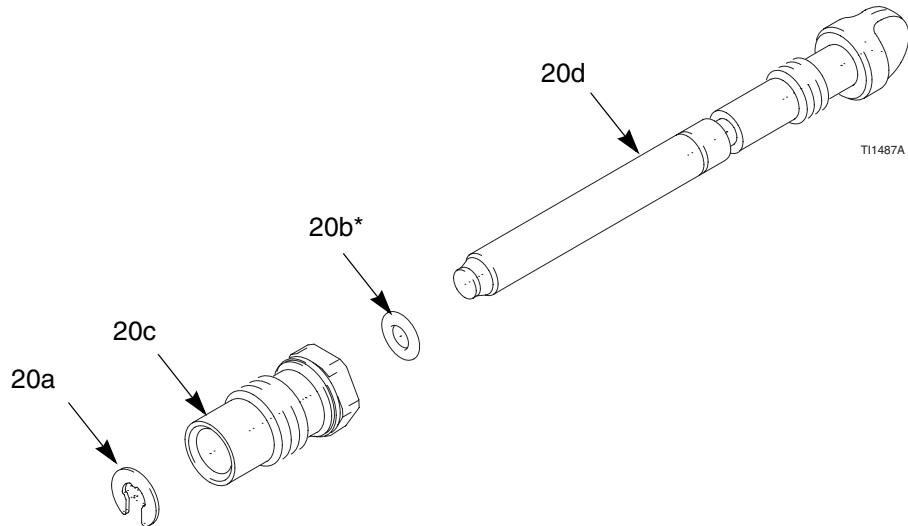

Fig. 19. Atomizing Air Adjustment Valve
2. Place a wrench on the flats of the valve assembly (20) and unscrew it from the handle (17).
3. Remove the retaining ring (20a). See FIG. 19.